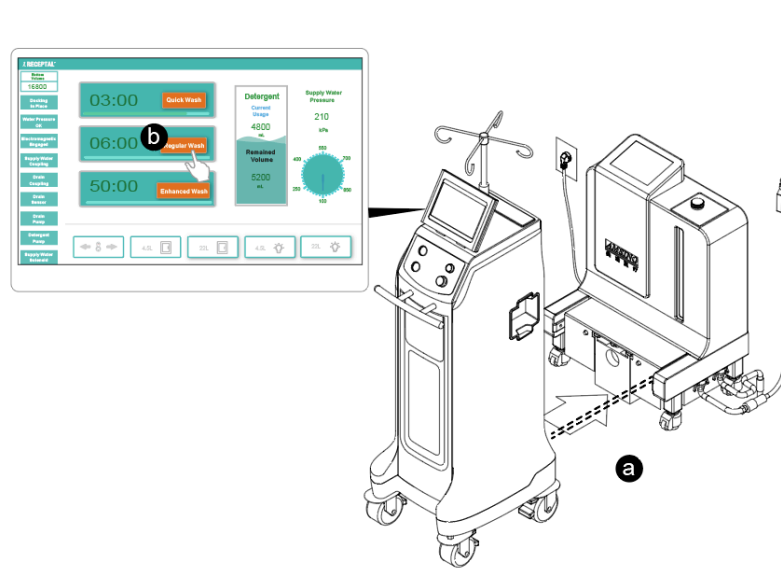

Figure 37 To Perform a Wash Cycle
- a. Push the rover toward the docker and between the guides until the rover and docker attach automatically (Figure 37).